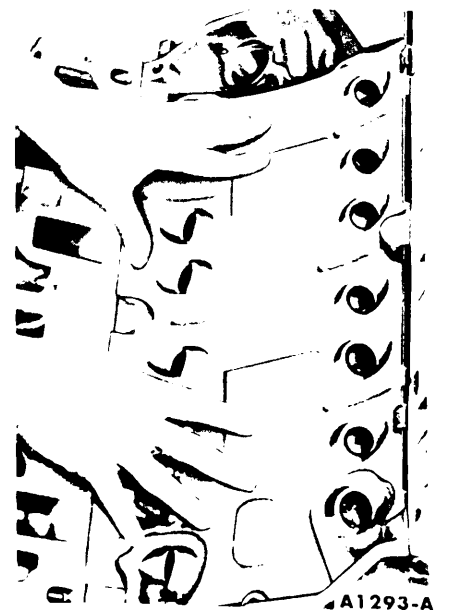

FIG. 95—Baffle Plate Installation
40. Position the baffle plate in the valve push rod chamber. Press it into place (Fig. 95).